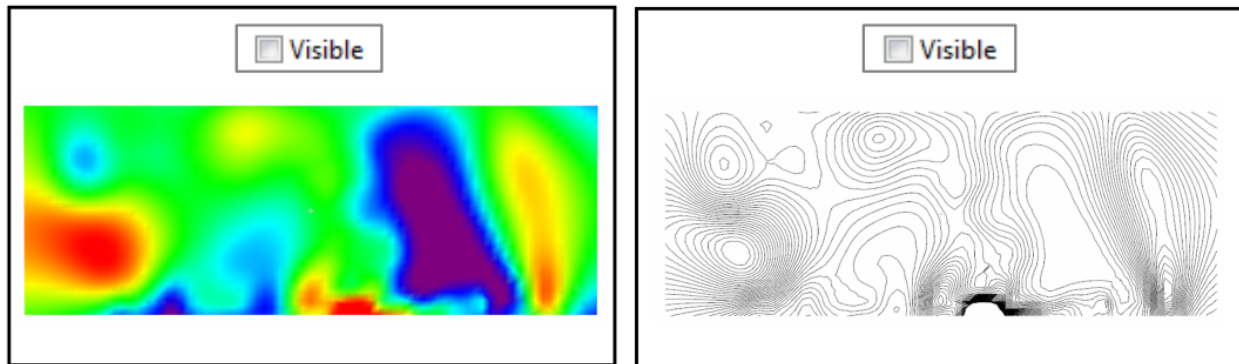

Figure 14.15: XY section with and without the filling visible
- **Visible:** controls the visibility of the contour lines. They are normally coloured in every point. If *Visible Line* is selected, it displays the section with the contouring lines overlaid. If it is not checked, only the contouring lines are visible (Figure 14.15).